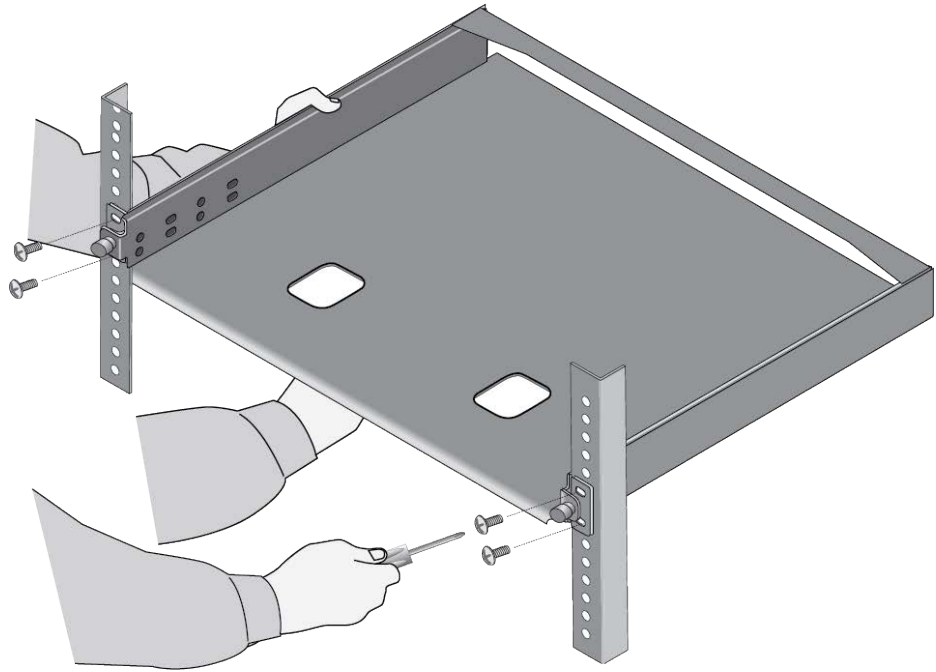

Figure 34. Installing the RKMT-J15 Bracket in the Equipment Rack
1. Have another person hold the RKMT-J15 Bracket at the desired location in the equipment rack while you secure it using four standard equipment rack screws (not provided). Refer to Figure 34 on page 93.